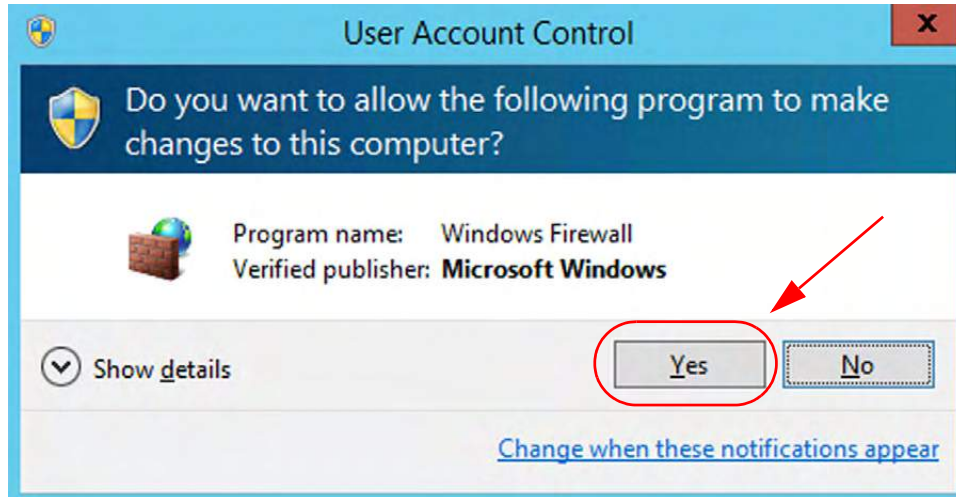

Figure 3.23: Windows 10: User Account Control
5. From the User Account Control screen, select “Yes”. Figure 3.23.